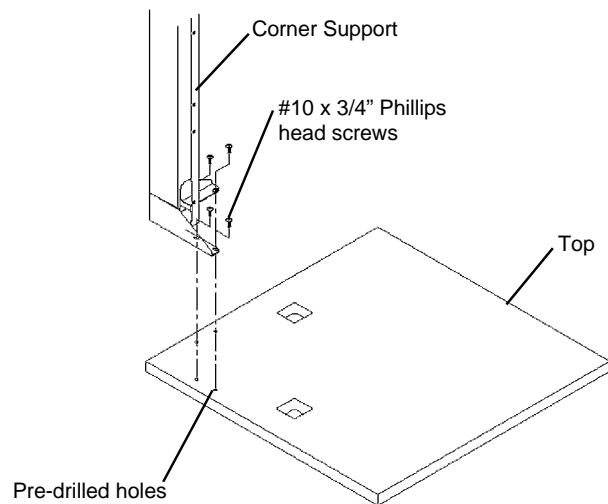

Figure 3
3. Remove the Top and place it, finished side down, on a smooth, clean surface. Align the Corner Support with the pre-drilled holes in the Top and fasten with the #10 x 3/4" Phillips head screws. See **Figure 3**.